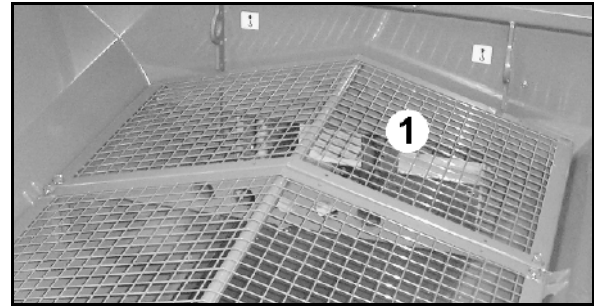

Fig. 60
- Granular fertiliser: Insert the sieve screen (Fig. 60/1) and secure using a lynch pin!